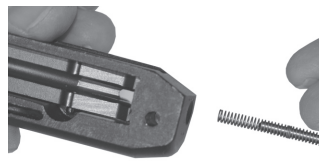

Figure 17
- 3) When the punch goes all the way through and the pin is out, put a finger over the head of the firing pin to control it and its spring as the punch is removed. The firing pin and spring will come out easily. See figure 17.